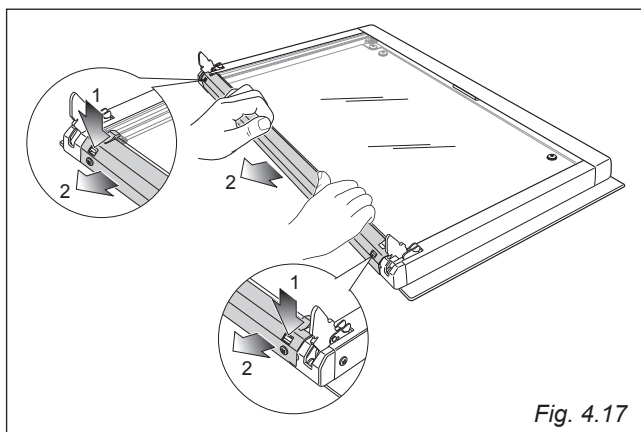

Fig. 4.17
**IMPORTANT:** The door shall be placed horizontally as per fig. 4.17.